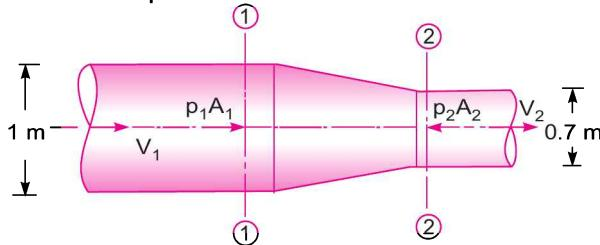

Fig. 6.27
**Problem 6.35** The diameter of a pipe gradually reduces from 1 m to 0.7 m as shown in Fig. 6.27. The pressure intensity at the centre-line of 1 m section  $7.848 \text{ kN/m}^2$  and rate of flow of water through the pipe is 600 litres/s. Find the intensity of pressure at the centre-line of 0.7 m section. Also determine the force exerted by flowing water on transition of the pipe.